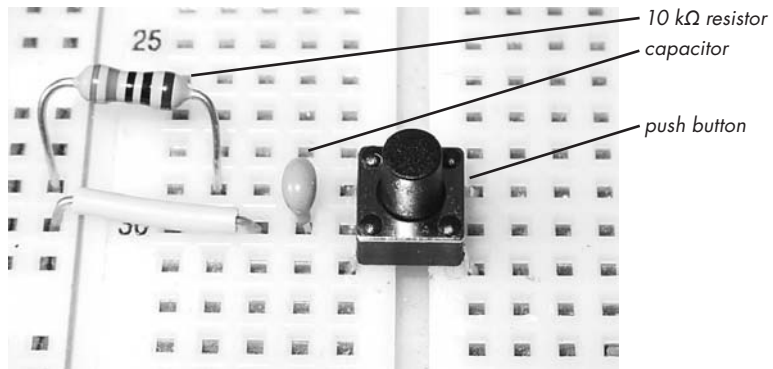

Figure 4-21: 10 kΩ resistor, capacitor, and push button
2. Turn the breadboard 90 degrees counterclockwise and insert the 10 k Ω resistor, a short link wire, and the capacitor, as shown in Figure 4-21.